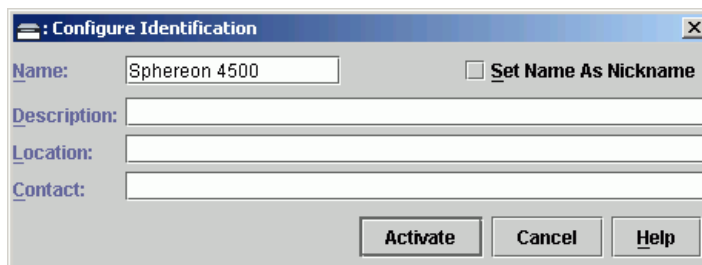

Figure 2-84 Configure Identification Dialog Box
1. At the *Hardware View*, select *Identification* from the *Configure* menu. The *Configure Identification* dialog box displays (Figure 2-84).